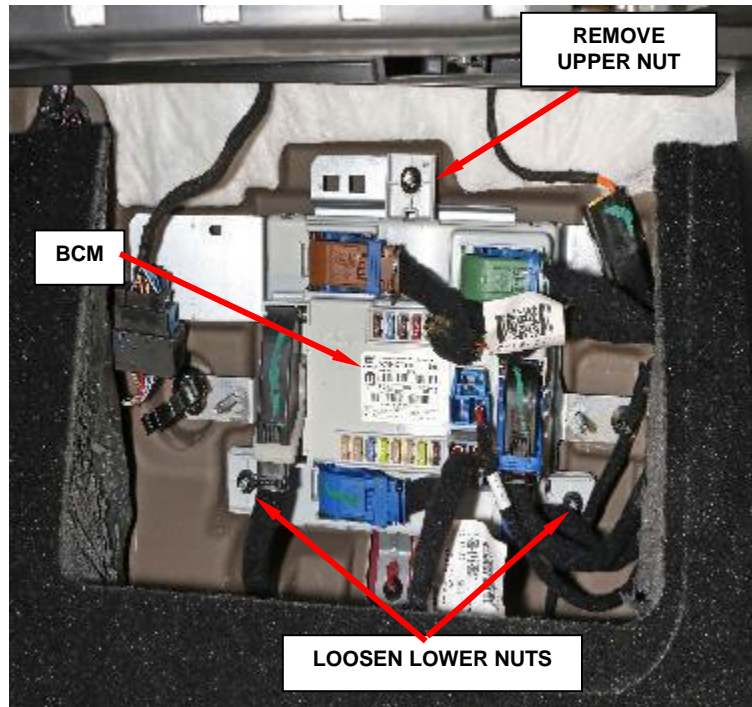

Figure 23 – BCM Mounting Nuts
5. **Without disconnecting the electrical connections** remove the upper nut, loosen the two lower nuts without removing them and detach the upper part of the BCM from the supporting bracket (Figure 23).